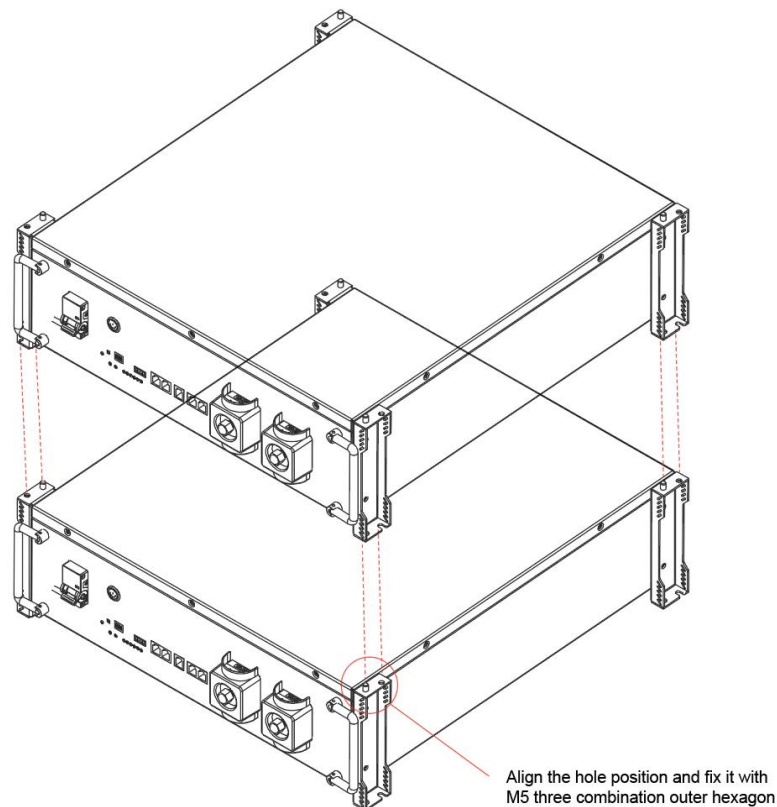

Figure 3-2
Step 2, complete Step 1: Connect and install the two installed products, ensuring that the positioning pins of the upper and lower support feet are aligned, and fix them with M5 cross hexagon bolts at a total of 4 locations, as shown in Figure 3-2 for details